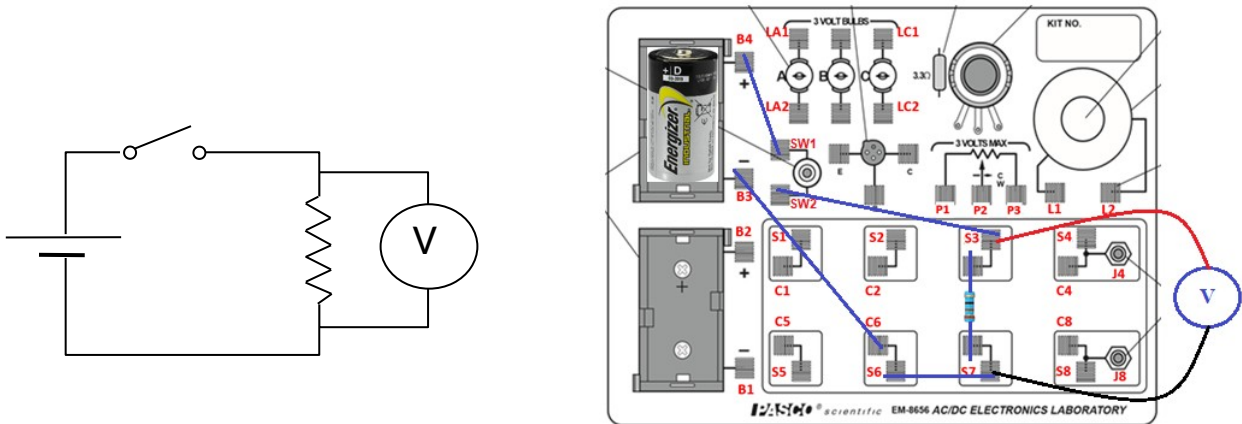

Figure 8: Voltage across Resistor, Circuit Diagram and Setup on the AC/DC Box
C. Voltage Across Resistors (Figure 8)